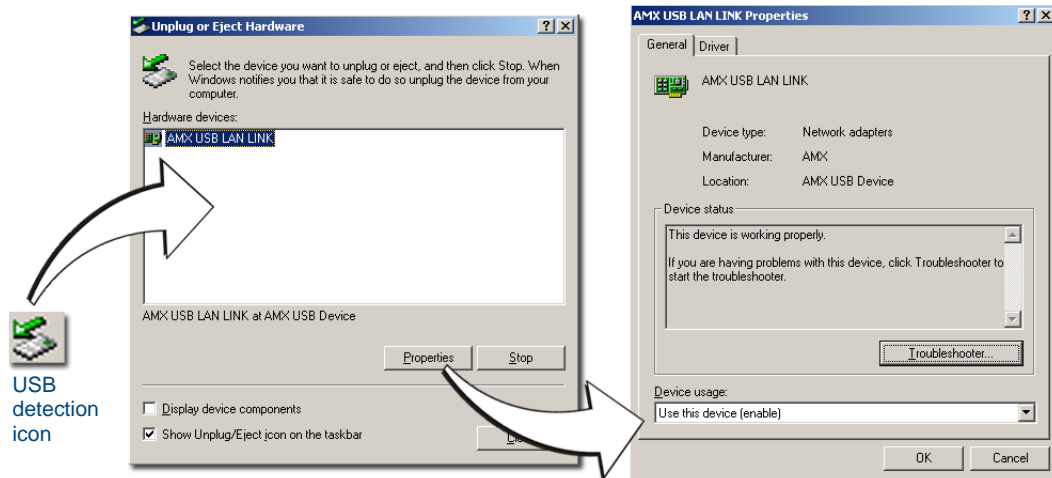

FIG. 24 USB Properties windows
3. Confirm that a new USB detection icon (FIG. 24) appears in the lower-right taskbar on the PC display window.